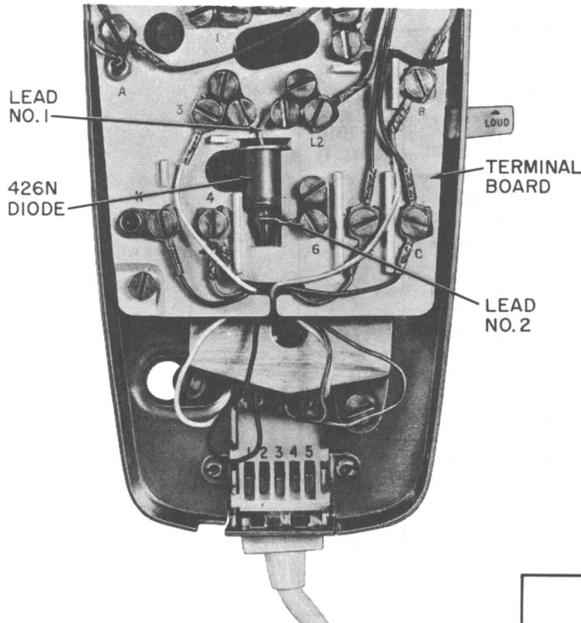

Fig. 1 — 426N Diode, Installed
† ① Flanged (Gold) base installed in enlarged part of opening, see Fig. 1.
② Knob end (housing tip).